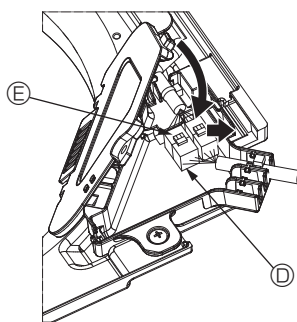

Fig. 10-9
- When closing the connector box cover, slide the cover in the direction indicated by the arrow and make sure that the projection is firmly inserted. (Fig. 10-9)